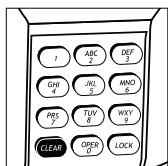

Figure 1
1. If you press a wrong key while entering your code, you may press “CLEAR” to reset prior to pressing “LOCK” (Figure 1).